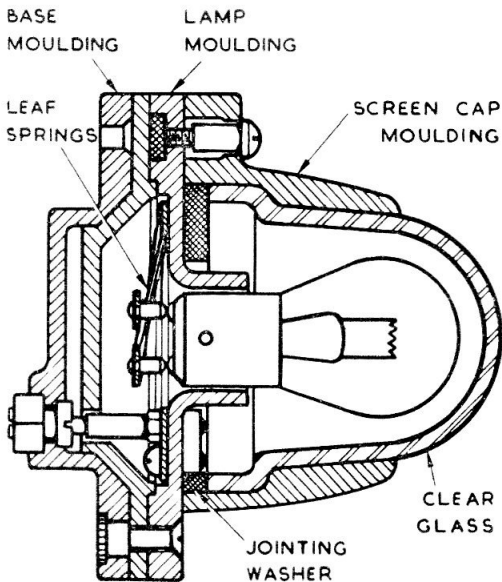

Fig. 2. Sectional drawing of lamp
3. The socket for the filament lamp (*fig. 2*) is formed in a base plate having the two contacts supported on flat leaf springs behind it. The leaf springs are C-shaped and fixed by a screw and socket insert. The socket has a thread which screws into the base and a hexagonal collar. The socket inserts project